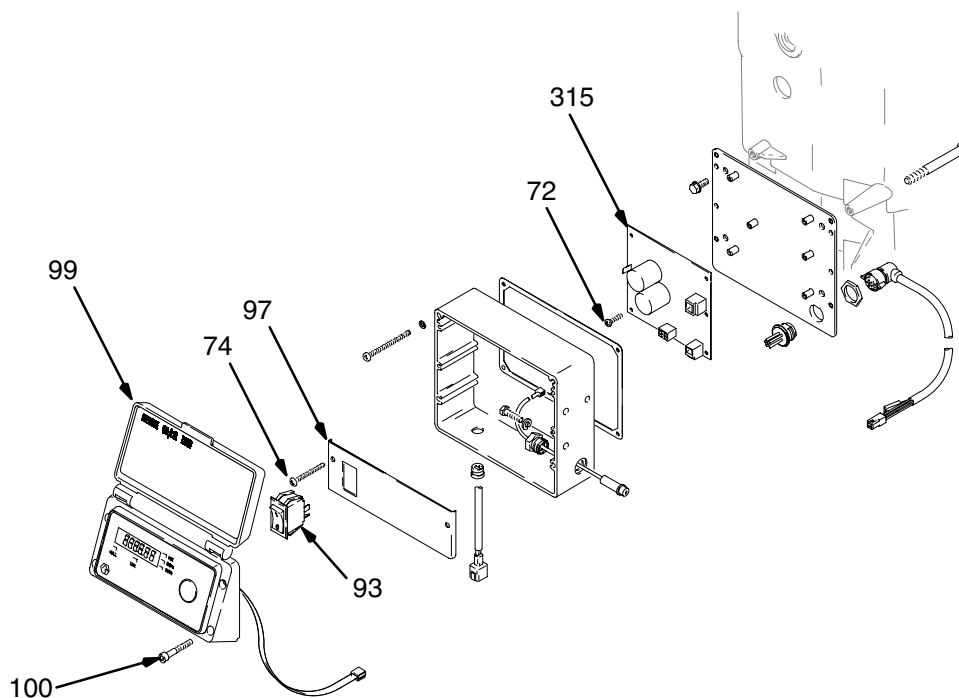

Fig. 4
2. Fig. 4. Remove four screws (100) and pressure control cover (99). Disconnect display connector from control board and remove display.
3. Disconnect wiring from switch (93).
4. Remove two screws (74) and switch panel (97).
5. Remove six screws (72).
6. Disconnect leads and remove control board (315).